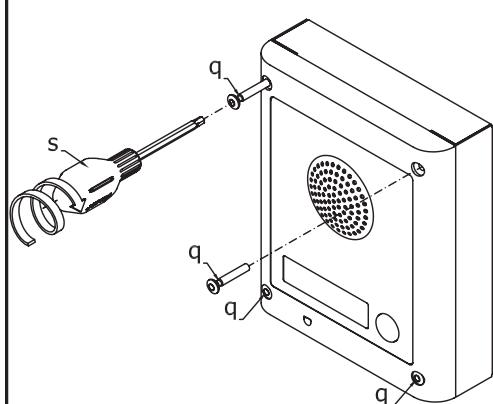

Fig.9
8. When the system has been tested and is working correctly, move back the module support frame carefully, fix it to the surface box using the provided screwdriver s (blade torx side) and the pin machine torx screws q as shown in figure 9.